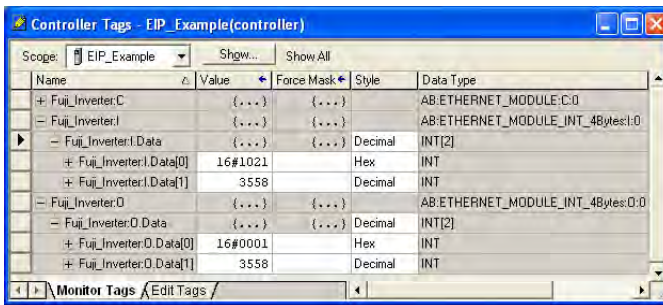

Figure 83: Controller Tags for I/O Access
- 8) By double-clicking "Controller Tags" in the project tree, it is possible to view the newly-added tags. Refer to Figure 83. The Fuji_Inverter:C configuration tag is unused, the Fuji_Inverter:I tag allows viewing of the input data, and the Fuji_Inverter:O tag allows modification of the output data. These tags will be synchronized with the inverter at whatever rate was established for the module's RPI.
We can directly interact with these tags in order to control and monitor the inverter. In Figure 83, for example, we can see that the first 16-bit word of output data (Fuji_Inverter.O.Data[0]) has been set to a hexadecimal value of 0x0001. Referring back to Figure 43, we can see that the first element of the consumed data configuration references function code S06, which is the inverter's operation command register. A value of 0x0001, therefore, means that the FWD (run forward) bit has been turned ON.